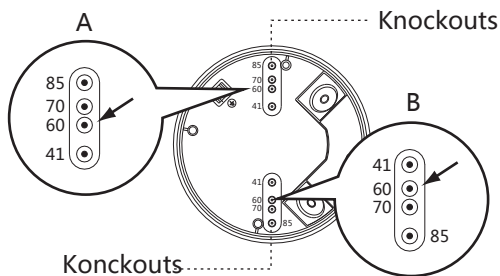

FIG.15-A
- There are 4 pairs of knockouts with various distances from 41mm to 85mm on the bottom cover of combined junction box KDP3/5 can be selected for different mounting applications (See FIG.15-A). Select two same figures on both ends for the corresponding distance for fixing (See FIG.15-B).